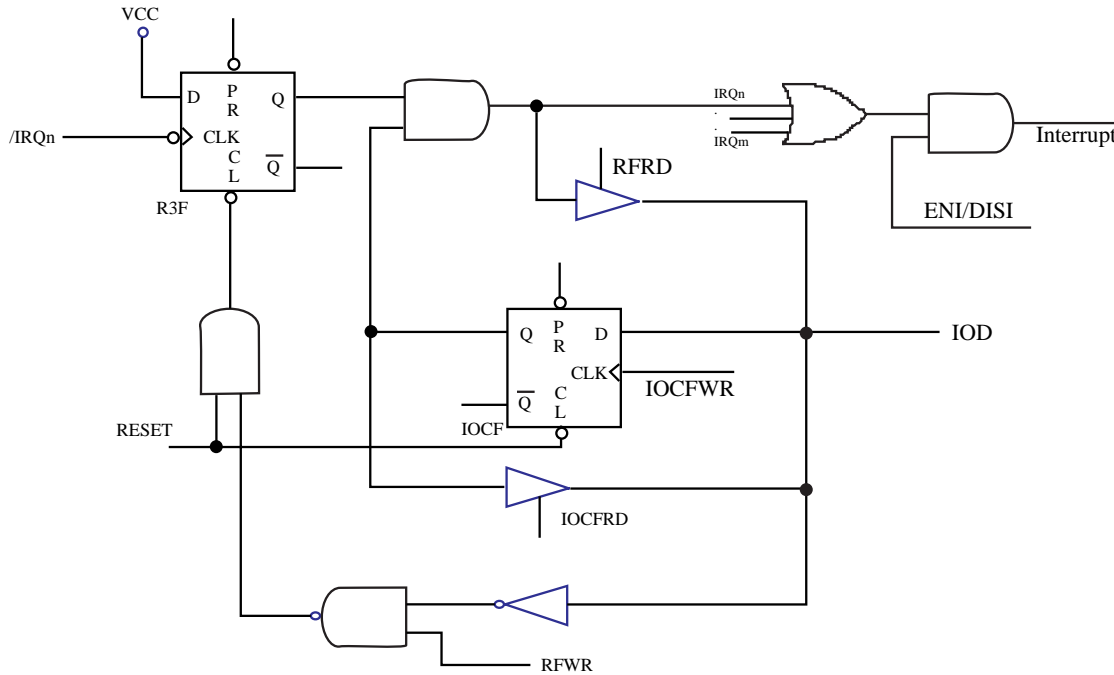

Fig. 9 Interrupt input circuit
- Global interrupt is enabled by ENI instruction and is disabled by DISI instruction. Refer to Fig. 9.
ENI instruction. Note that reading R3F will get the output of logic AND of R3F and IOCF. Refer to Fig. 9. The RETI instruction exits interrupt routine and enables the global interrupt (execution of ENI instruction).